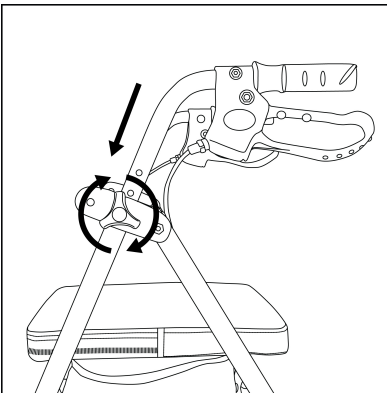

Fig. 6
- At the required height (there are several holes), secure the brake assemblies using a thumbwheel on either side. (Fig.6)